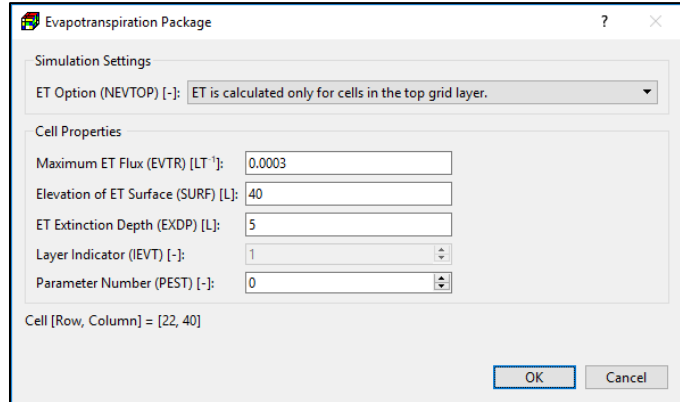

Figure 51. The Evapotranspiration Package dialog box
1. **All input methods:** Figure 51 shows the dialog box for specifying cell, vertex, or polygon properties.